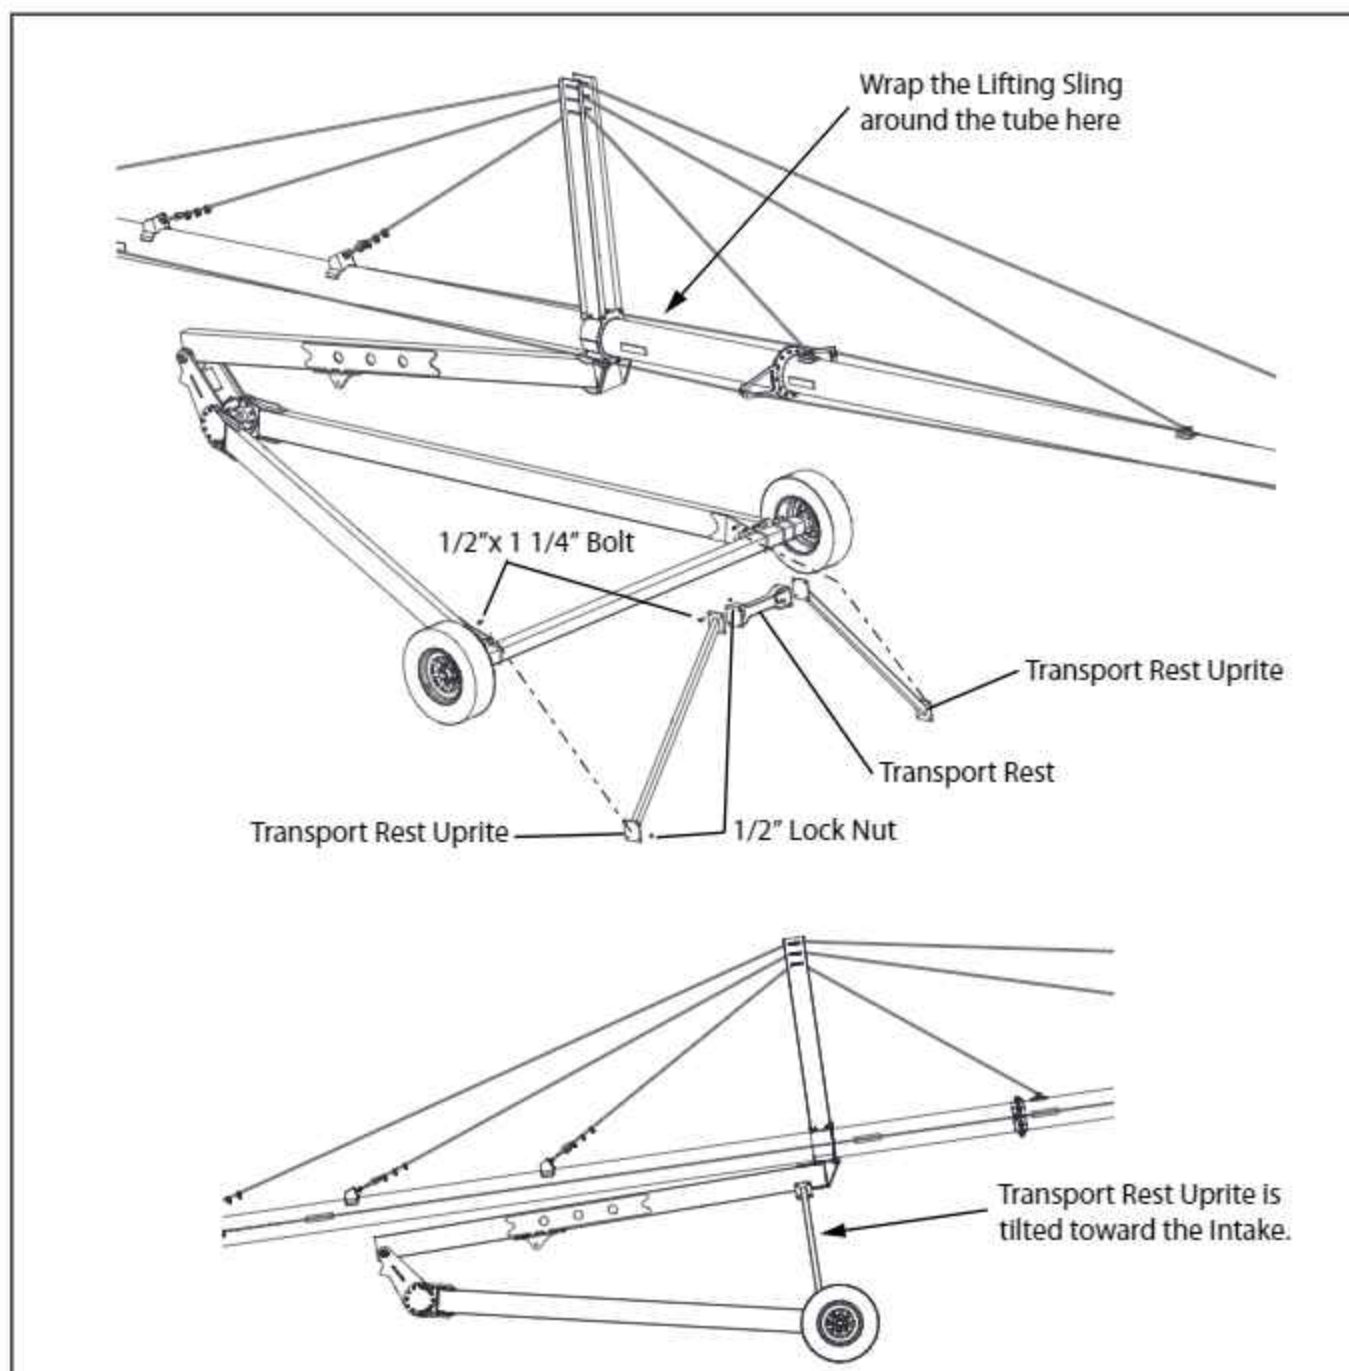

FIG. 3-20. Transport Rest Installation
1. Wrap a sling around the tube, close to the Truss Tower as shown in Fig. 3-20. Raise the tube about 4 feet.
3. Install the Transport Uprights and the Transport Rest as shown in Fig. 3-20, using sixteen $\frac{1}{2}$ "x $1\frac{1}{4}$ " bolts and lock nuts. Make sure the Transport Uprights are tipped toward the intake of the auger.